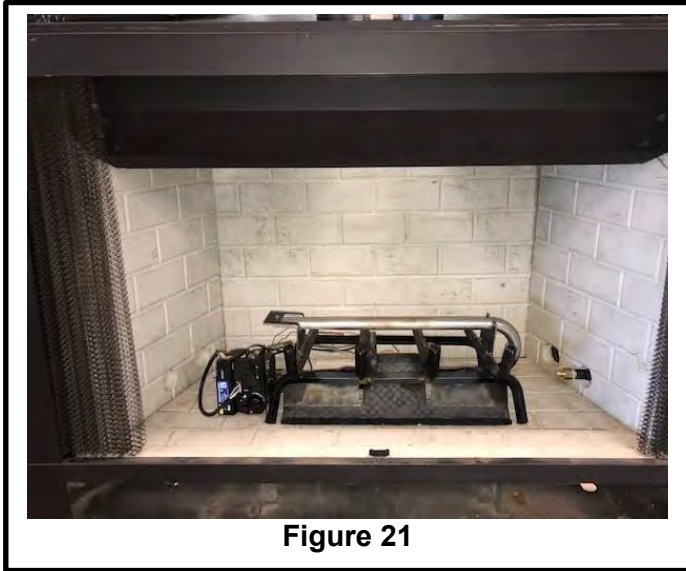

Figure 21
6. Place the burner system in the fireplace. Centering the burner front to back and side to side as shown in Figure 21.